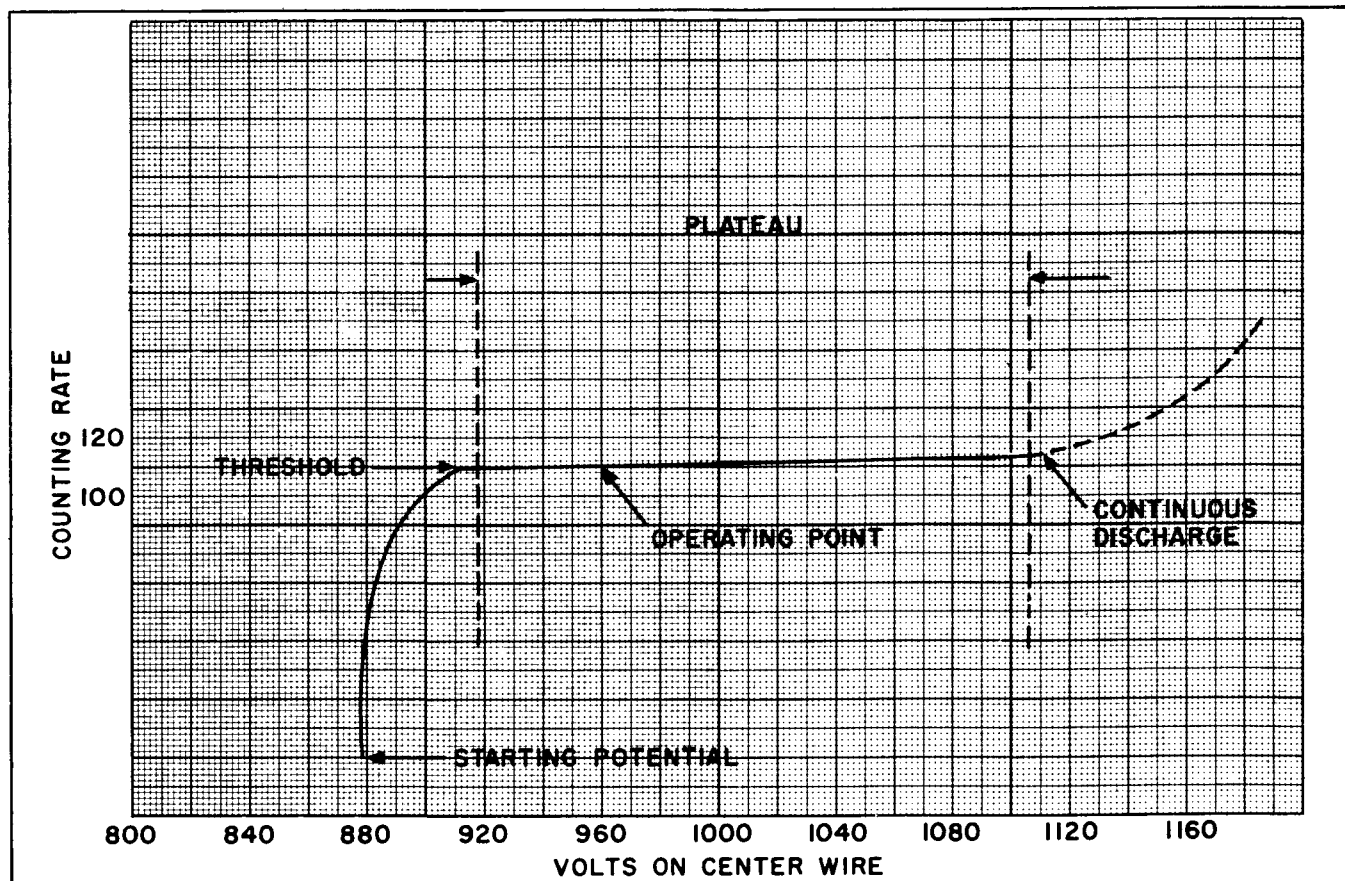

Figure 4-8. Typical G-M Tube Operating Voltage Curve
b. **DETERMINING THE OPERATING VOLTAGE OF G-M TUBE.**—An important characteristic exhibited by G-M tubes is the operating plateau curve. A typical curve is shown in Figure 4-8. The